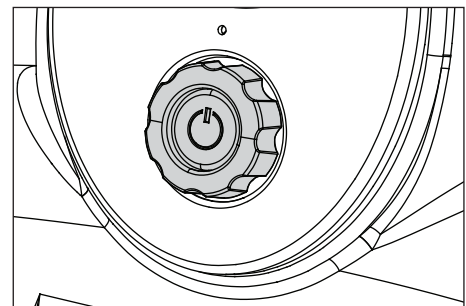

Figure 5 - Pressure Selector Dial
4. Turn pressure selector dial to the "LO" setting (LO setting is just below 20 psi setting). (See Figure 5).
4. Turn the pressure selector dial until desired pressure is reached. (See Figure 5).